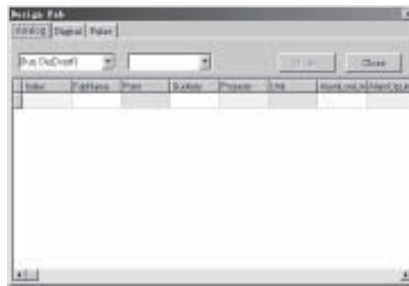

**Fig. 4-9 Completing the Add of 100 Controllers**
2.3 Repeat the above operations and add 100 controllers into the Station Sun Garden #1 one by one as in Fig. 4-9.